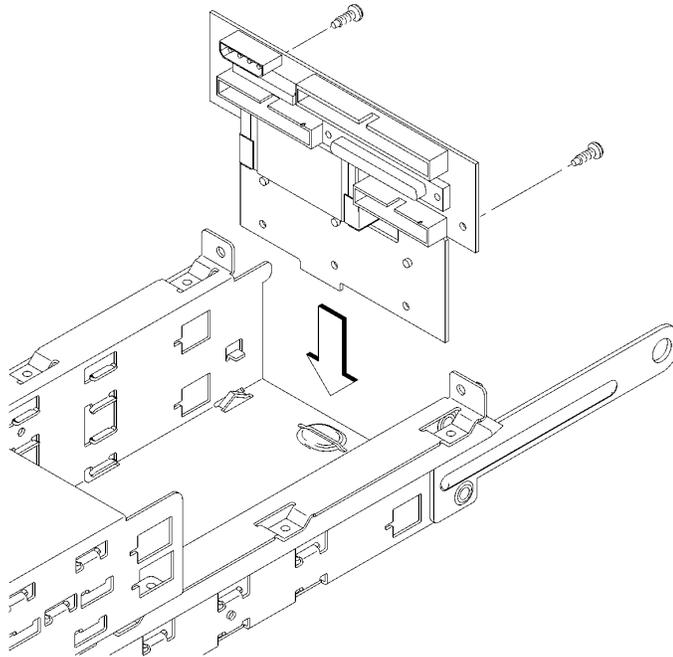

Figure 36
- 7 Slide the disk interconnect board into the storage tray, as shown in Figure 36.
- 9 Replace the disk interconnect board retaining screws and tighten them firmly, as shown in Figure 36.
- Modules must be inserted in the lowest numbered memory pair first, then in numerical order. For example, install memory in 0A and 0B first, then 1A and 1B, 2A and 2B, and 3A and 3B. Refer to Figure 36 for memory pair numbering and location. Refer to Table 19 for allowable memory configurations.